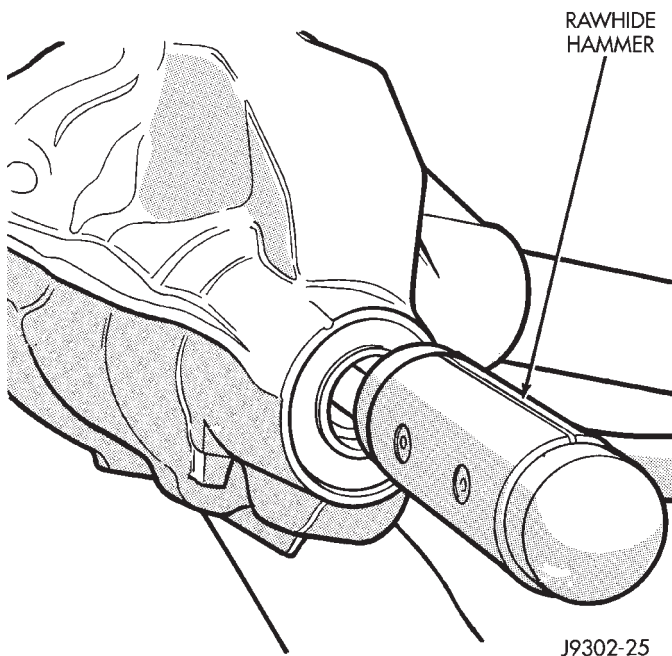

Fig. 19 Remove Pinion Gear
(11) Remove the pinion gear from housing (Fig. 19). Catch the pinion with your hand to prevent it from falling and being damaged.
(12) Remove collapsible spacer from pinion shaft.